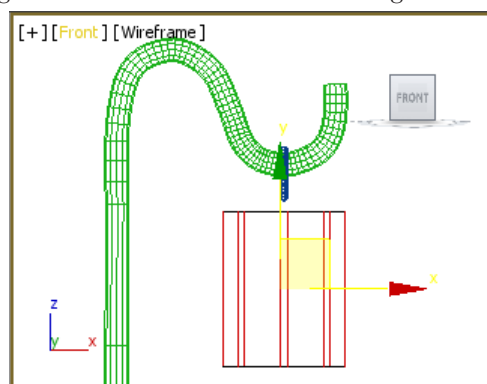

Figure 5-32 Selected edges chamfered
7. In the **Selection** rollout, choose the **Ring** button; the ring of edges are selected. Next, in the **Edit Edges** rollout, choose the **Settings** button on the right of the **Chamfer** button; the **Chamfer** caddy control is displayed in the viewport. Set the value **0.03** in the **Chamfer-Amount** spinner and **1** in the **Segments** spinner and then choose the **OK** button to close the caddy control; the selected edges are chamfered, as shown in Figure 5-32.